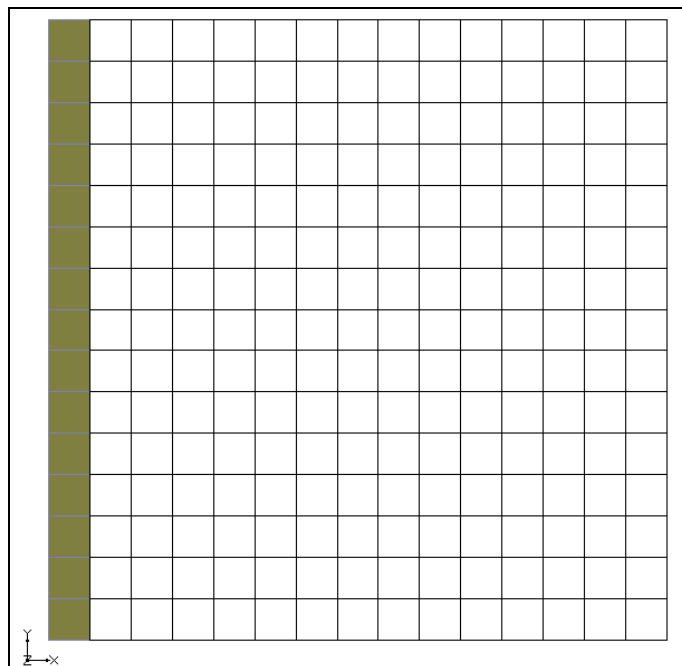

Figure 3 Highlight the leftmost column
3. Drag a box around all of the cells in the leftmost column of the grid to highlight them (Figure 3).